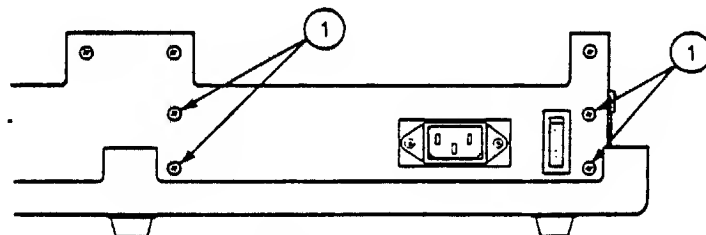

FIGURE 15
5. Remove the four screws that hold the power supply to the inner rear plate (Figure 15, #1), and lift out the power supply.
2. Turn the ProFile over and rest it on the protective pad. Remove the four screws that mount the HDA to the ProFile housing (Figure 15, #1).